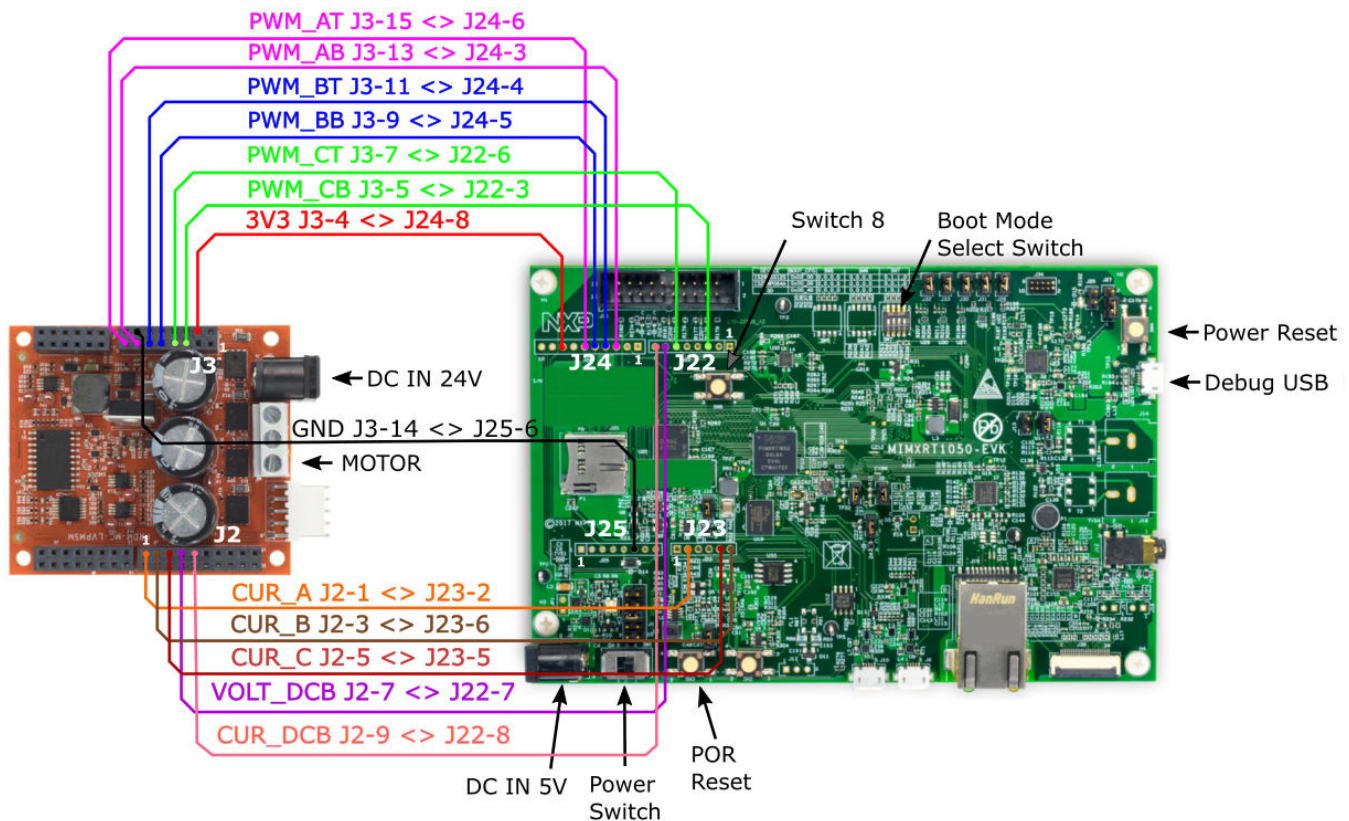

Figure 11. MIMXRT1050-EVKB interconnection diagram
1. Wire the FRDM-MC-LVPMSM power stage to the MIMXRT1050-EVKB board according to the pin assignment (Table 5) and the interconnection diagram (Figure 11).